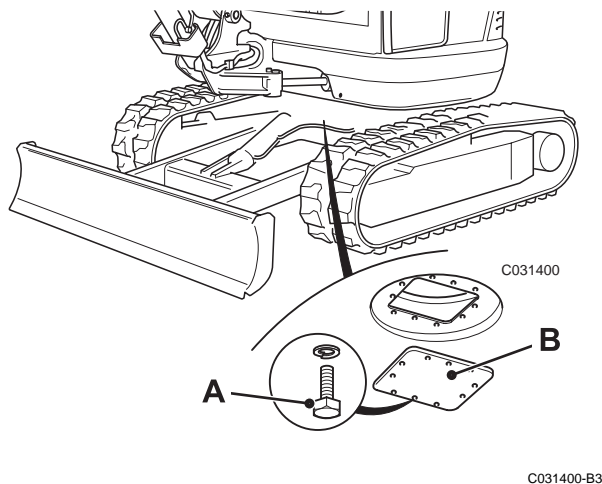

Fig 72.
- 3 Remove bolts **A** and plate **B** in the underside of the undercarriage. ⇒ Fig 72. \(□ 211\)